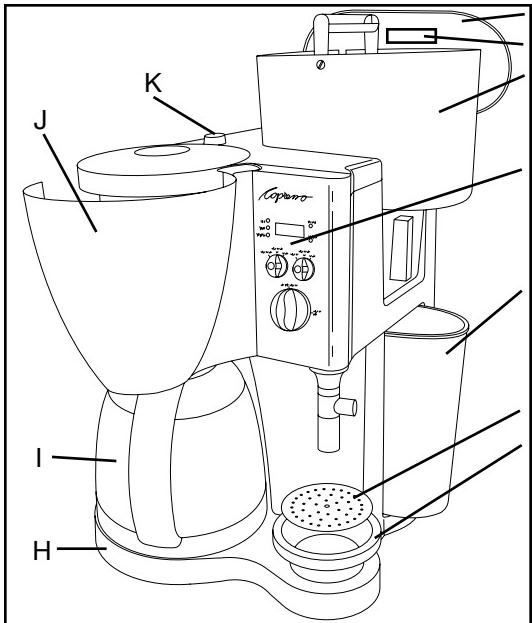

FIG. 1
- Drip Grid and Drip Tray (figure 1; F, G)